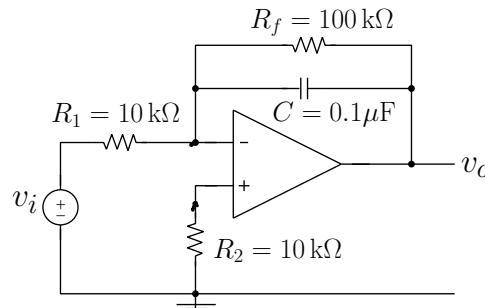

Figure 6: Integrating amplifier.
1. Configure the op-amp amplifier circuit shown in Figure 6 on your protoboard using component values of  $R_1 = 10 \text{k}\Omega$ ,  $R_2 = 10 \text{k}\Omega$ ,  $R_f = 100 \text{k}\Omega$ , and  $C = 0.1 \mu\text{F}$  (Use the one from lab#1). *In this and all future circuits using op-amps, connect the circuit ground to supply ground (the black terminal labeled "N" between + and -) — your TA can show you how to do this.* We recognize this circuit as an op-amp integrator in  $R_f \rightarrow \infty$  limit, so we will call the circuit with  $R_f = 100 \text{k}\Omega$  an integrating amplifier.